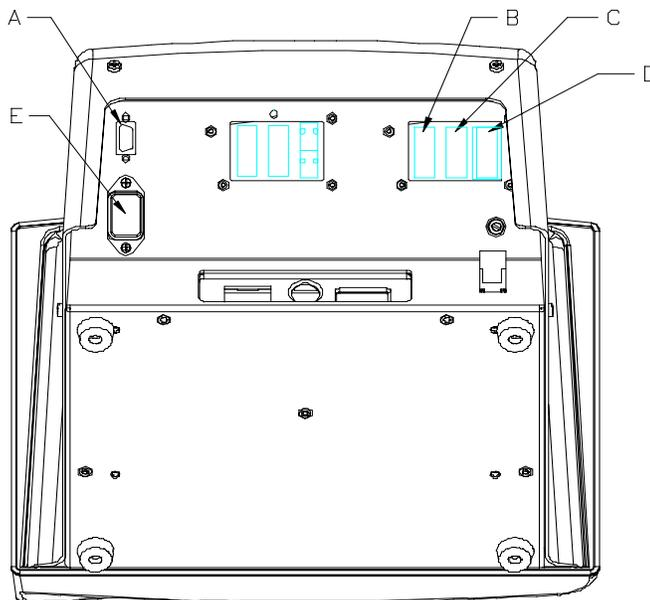

Figure 4-6 Model 8361 Controller Connections
Connect the Model 705 Labeler interface cable to C in Figure 4-6, the Model 8270 Scale cable to D, and Model 317 DayGlo Printer cable to A, and the Model 317 Standard Printer cable to B on the rear of the Model 8361 Controller, as shown in Figure 4-6. Connect the power cord to the AC power inlet (E). The cables are identified by labels on the connector shells.